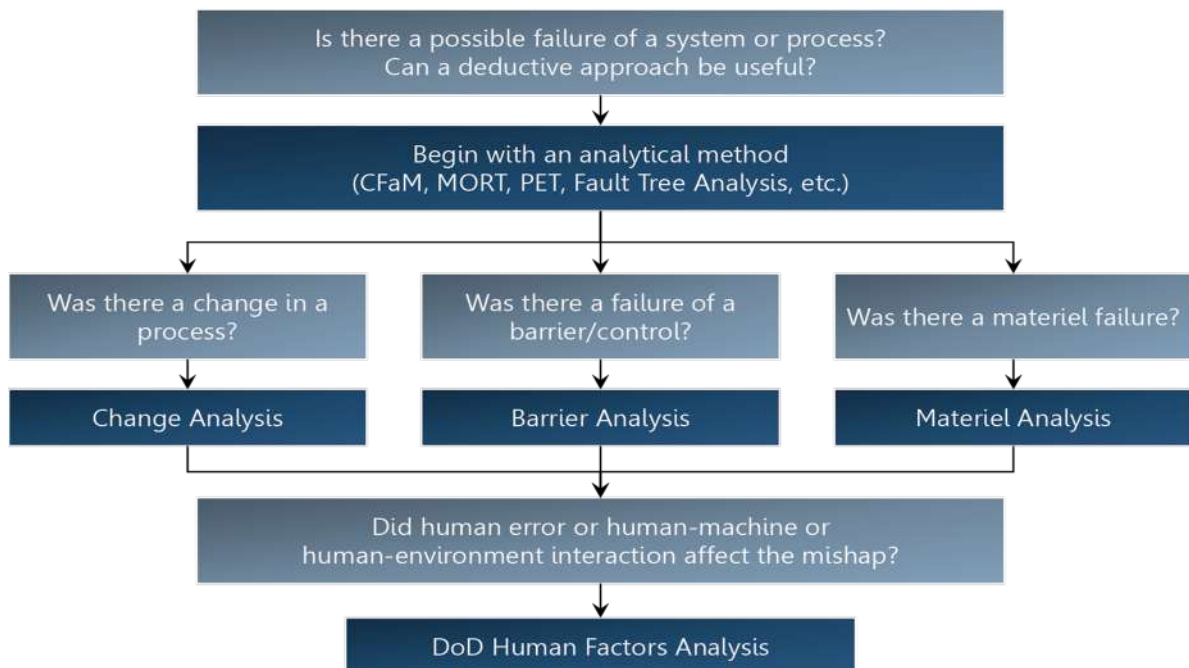

Figure 3-6
c. Methodology – Analysis Tools. Caution must be taken in applying analytic methods. First, no single method will provide all the analyses required to completely determine the multiple causal factors of a mishap. A structured and meticulous analysis of the data provides the best opportunity for the investigators to reach accurate conclusions. Analysis can be accomplished in many ways. A number of mishap analysis methods are used by seasoned Navy and Marine Corps safety personnel to determine causes of the mishap (see *Figure 3-6* below and *Figure 3-10* at the end of this chapter). Each method has different areas of application and the investigator should be prepared to use several in a comprehensive mishap investigation. This section provides an understanding of how to utilize some important, recognized, and commonly used methods for investigations of mishaps or near-mishaps.